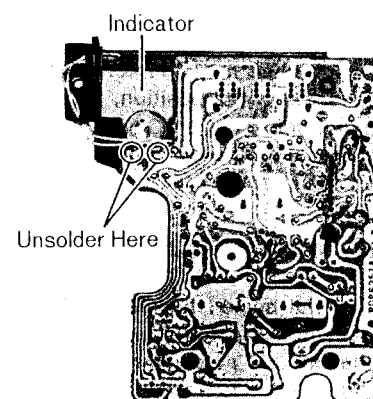

Fig. 12
2. Unsolder the terminal of indicator, as shown in fig. 12.